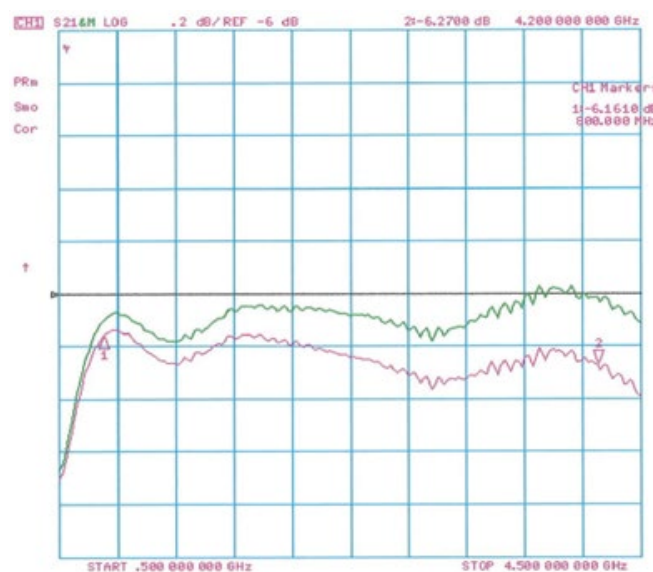

Figure 4-4. Typical Four-Way Splitter Insertion Loss
5. A typical Four-Way Splitter Insertion Loss is shown in Figure 4-4. The unused ports must be terminated when checking the insertion loss.